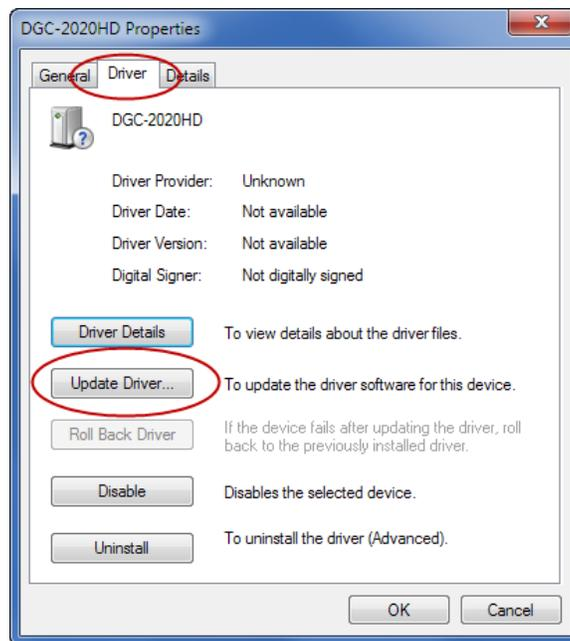

Figure 8-3. DGC-2020HD Properties
Step 3. In the Properties windows, select the Driver tab and click Update Driver. See Figure 8-3.